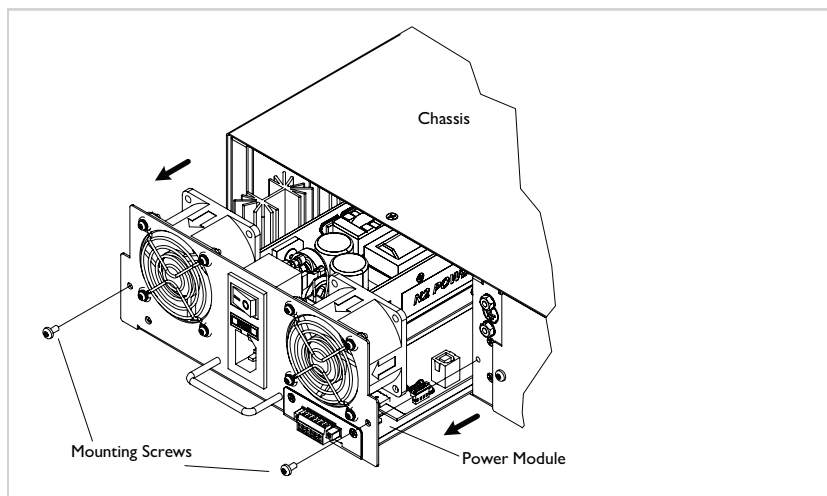

Figure 9: Removing Power Module
5. Carefully pull the Power Module from the chassis. See Figure 9.